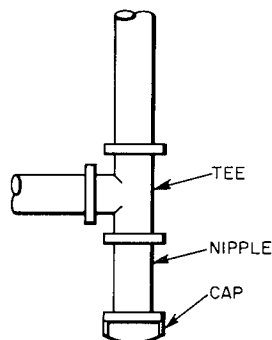

Figure 8—Sediment Trap
4. Install sediment trap in riser leading to heating section. This drip leg functions as a trap for dirt and condensate. Install trap where condensate can not freeze. Install this sediment trap by connecting a piping tee to riser leading to heating section, so that straight-through section of tee is vertical. See Figure 8. Then, connect capped nipple into lower end of tee. Extend capped nipple below level of gas controls.